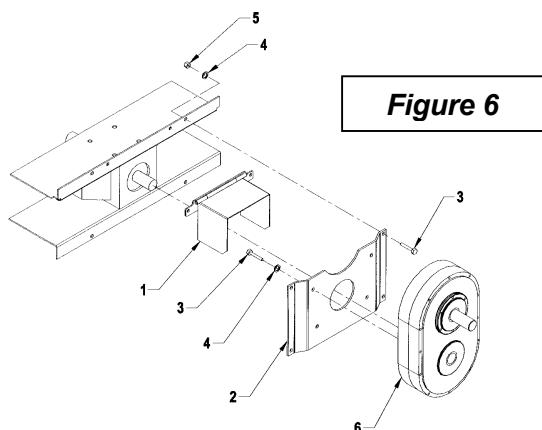

Figure 6
Installation of the Reduction Box 8097 (Option) (Figure 6)
Adjustment and Maintenance of the Reduction box (Figure 6 – 7)
2. Adjust the chain's tension after ten (10) hours of operation. To do so, check the play between the reduction box input shaft (fig. 6, item 6) and the output shaft by turning the input shaft both ways without the output shaft turning. A play of 10° or 15° requires an adjustment: